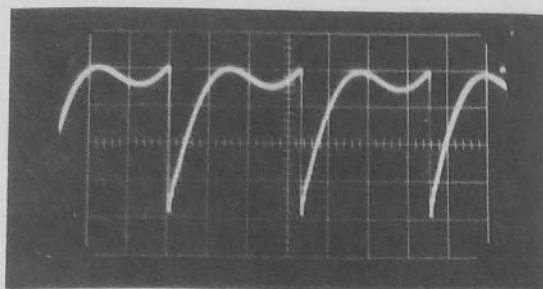

Figure 37. Output, at Junction of 3L1, 3L2, and 3R12, 120V P-P.
8. Connect the oscilloscope probe to the junction of 3L1, 3L2, and 3R12. Remove the jumper from the HOR STAB coil, 3L2, and then adjust the HOR STAB for a waveform such as shown in Figure 37.